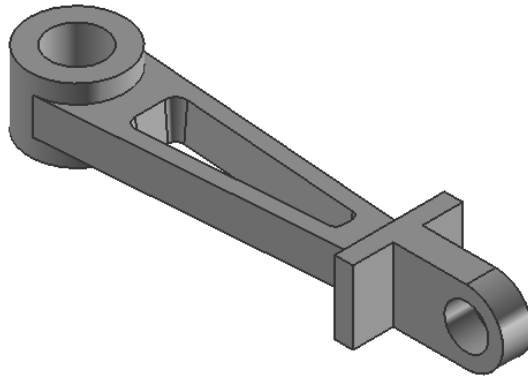

Figure 8-70 The final model for Tutorial 3
- i. Create the cylindrical pocket in the rectangular pad using the **Pocket** tool, refer to Figure 8-70.
6. Select the cylindrical pocket edge from the preview of the pocket and choose the **Arc Center** button from the **Set Arc Position** dialog box; the cylindrical pocket is placed on the rectangular pad feature. The final model is shown in Figure 8-70.